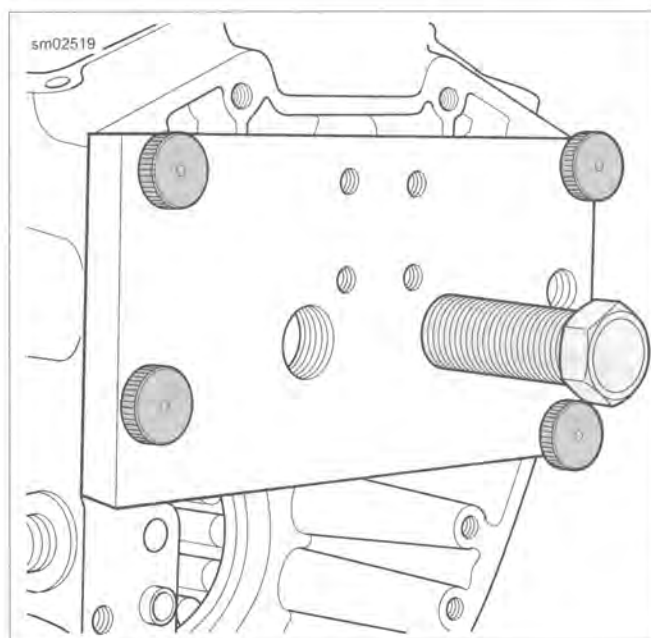

Figure 3-102. Installer Forcing Screw Installation
5. Thread installer forcing screw into stamped side of support plate (2) until threads begin to emerge from opposite side.
6. Place installer (6) at end of installer forcing screw.
8. See Figure 3-102. Aligning two large holes in support plate with needle bearing bores, hang right side of plate on ring dowel in crankcase flange.